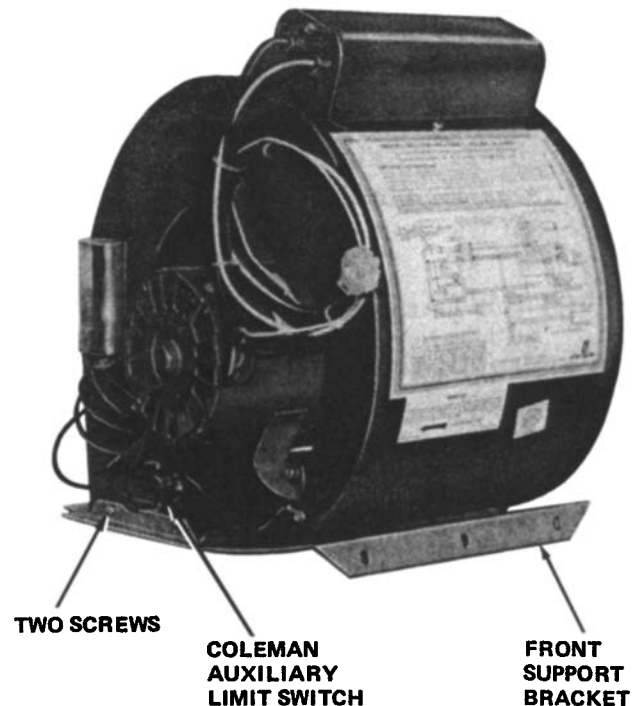

FIGURE 4.
5. Refer to FIGURE 4 and remove auxiliary limit switch from left side of the Coleman blower, and install on left side of Nordyne Blower.